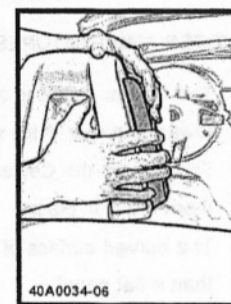

FIGURE 6
3. Once the Center Panel Outboard Bracket is mounted to the roll hoop, apply firm pressure to the bracket for 10-15 seconds to secure the tape. Make sure all tape edges are in contact with the roll hoop (FIGURE 6).